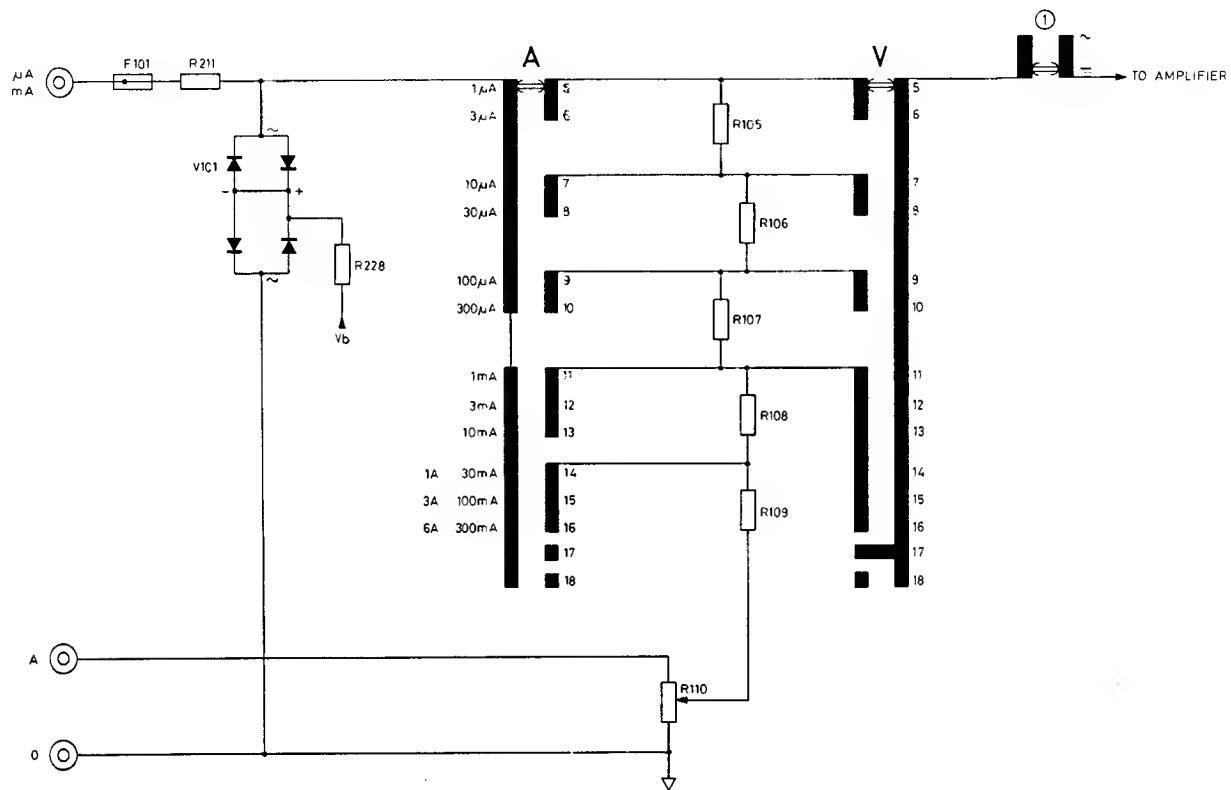

Fig. 10. A---, and A \sim shunts
4.3.2. A --- and A \sim shunts (Fig. 10)